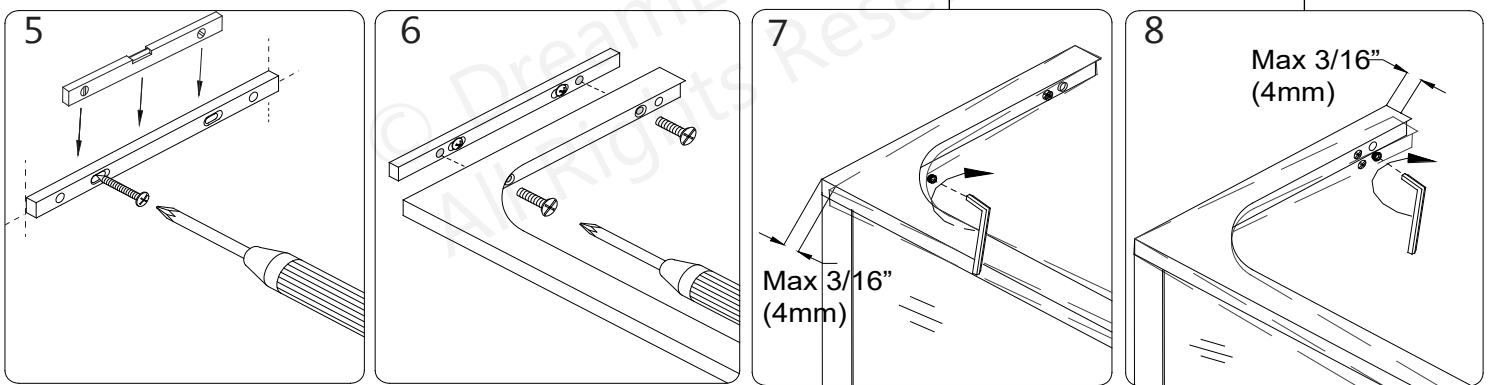

Fig 7
7. Attach the **Wall Plate (#9.6)** to the wall using the **ST4.2 x 40 Truss Head Screws (#9.7)**. Re-attach the **L-Bar™ (#9.3)** to the **Wall Plate (#9.6)** using the **M5 x 14 (Flat Head Screw #9.8)**. Adjust the angle if necessary by using the **Wall Plate Adjustment Set Screws (#9.9)**. (**Fig 7**)